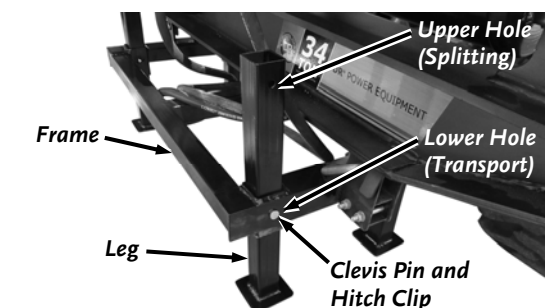

Figure 7
10. Install the Legs into the Frame and secure with a Clevis Pins and Hitch Clips (**Figure 7**).